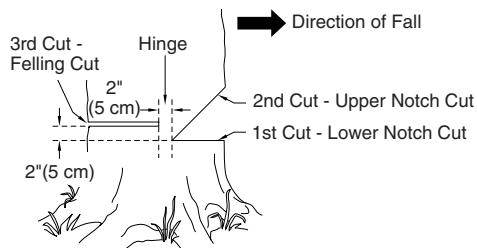

Figure 12 - Felling A Tree
A properly placed felling notch will determine direction tree will fall. Place felling notch on side of tree in direction you want tree to fall (see Figure 12). Follow directions below to create a felling notch.
1. Make lower notch cut as close to ground as possible. Hold saw so guide bar is horizontal. Cut 1/3 the diameter of tree trunk (see Figure 12). *Note:* Always make this horizontal lower notch cut first. If you make this cut second, tree can pinch chain or guide bar.
*Example:* If lower notch cut is eight inches deep, start upper notch cut eight inches above it. Cut downward at 45° angle. The upper notch cut should meet end of lower notch cut (see Figure 12).
1. Make felling cut two inches higher than lower notch cut and on opposite side of tree (see Figure 12). Keep felling cut parallel to lower notch cut.
**Do not cut all the way through tree. Leave about two inches of tree diameter uncut directly behind felling notch (see Figure 12). This uncut portion acts as a hinge. The hinge helps keep tree from twisting and falling in wrong direction.**